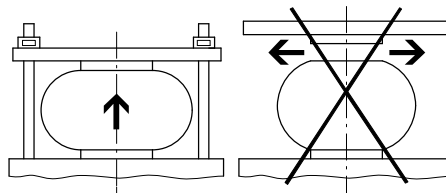

Fig. 2
- Make sure that the bellows actuator does not exceed the maximum height h_{max} . Example Fig. 2.